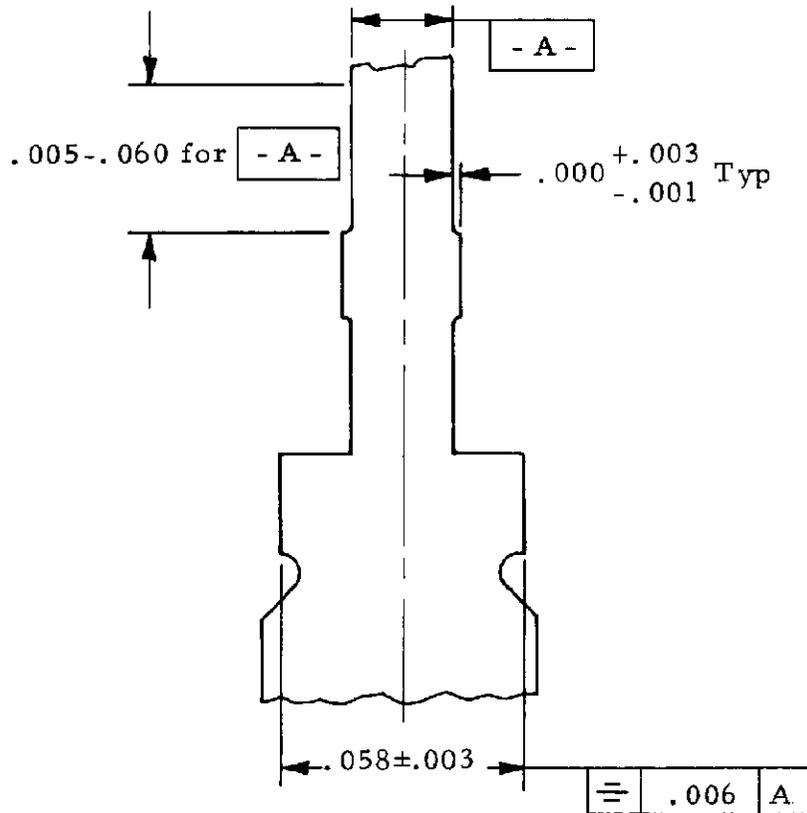

Figure 3
A. Cutoff tabs shall not exceed the limits specified in Figure 3.